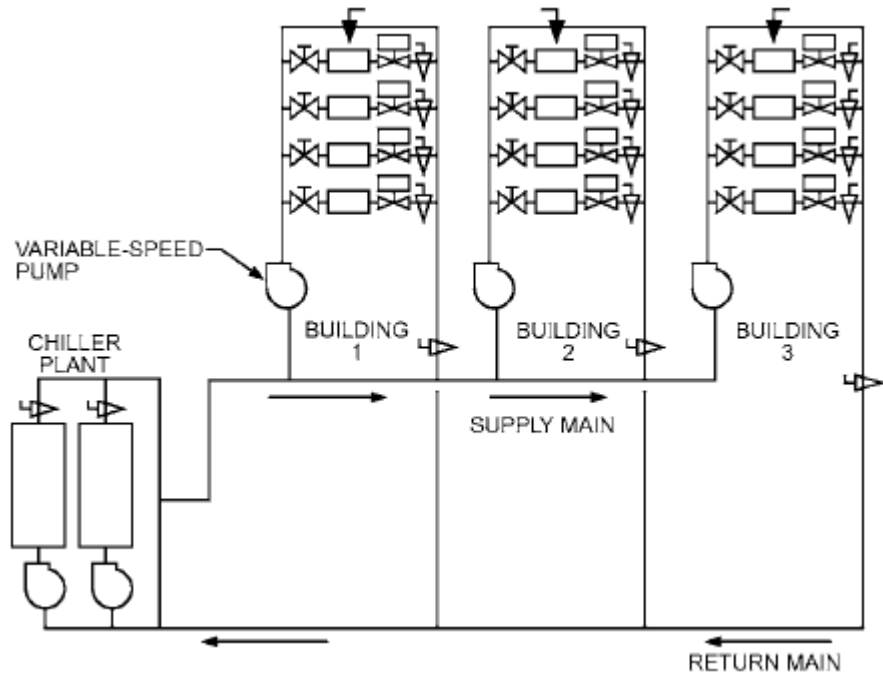

Figure 37 Variable-Speed Distributed Pumping
- In a variable-speed distributed pumping arrangement, **constant flow pump(s) recirculate the chiller or boiler source in a primary source loop**, and a variable-speed zone or building pump draws flow from the source loop and distributes to the zone load terminals as shown in Figure 37.